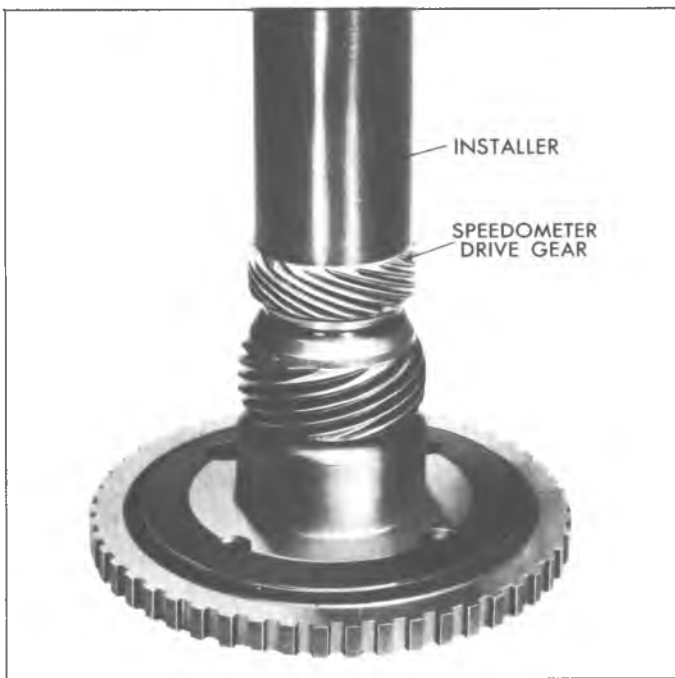

Fig. 5B—Installing Steel Speedometer Drive Gear
2. Install new steel speedometer drive gear and drive to location (5-43/64" below end of output shaft for all models except CA, CB and CR) (11-15/64" below end of output shaft for models CA and CB) (11-29/64 below end of output shaft for model CR) using J-5590 (fig. 5B).